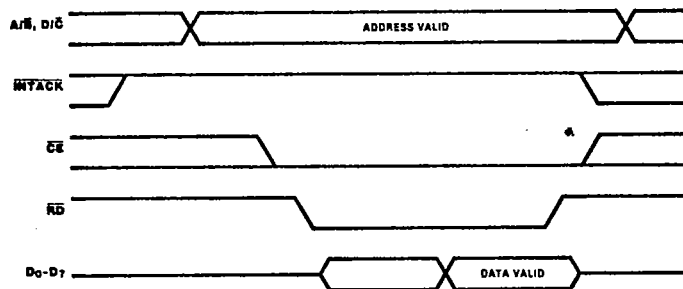

Figure 12. Read Cycle Timing
**Read Cycle Timing.** Figure 12 illustrates Read cycle timing. Addresses on A/B and D/C and the status on  $\overline{INTACK}$  must remain stable throughout the cycle. If  $\overline{CE}$  falls after  $\overline{RD}$  falls or if it rises before  $\overline{RD}$  rises, the effective  $\overline{RD}$  is shortened.